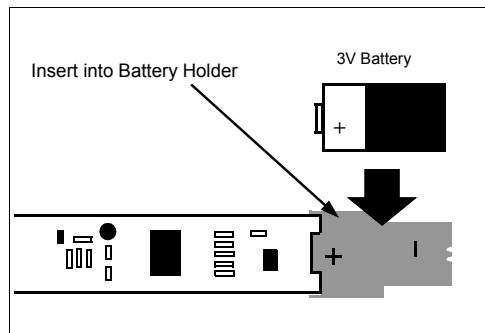

Fig. 3. Installing the battery
2. Insert the battery into PC Board. Observe battery polarity. Insert battery with positive (+) terminal toward the board. See Fig. 3. The battery will not make contact if inserted backwards.